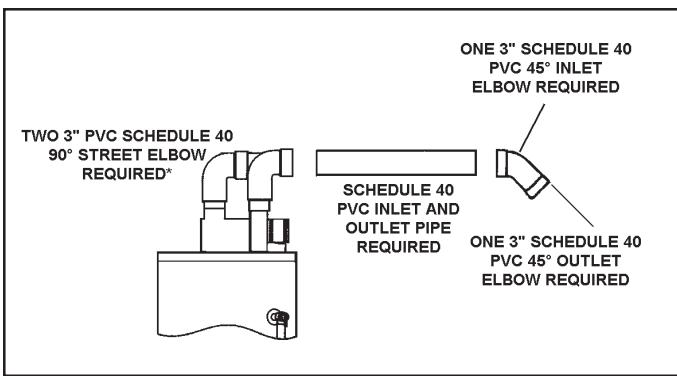

FIGURE 11. STANDARD MODELS.
B. ALL 50 GAL.(189.3 L) 38,000 AND 40,000 BTU/HR MODELS & 40 GAL.(151.4 L) 36,000 & 40,000 BTU/HR MODELS, SEE FIGURE 11.